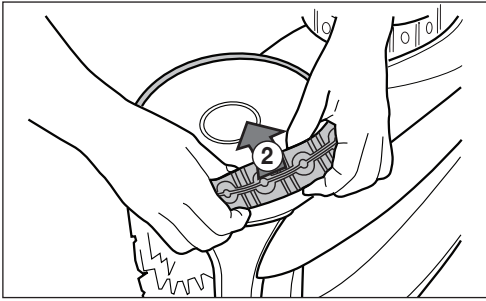

Figure 24. Remove the Old Tyre
2. Remove the old tyre. See Figure 24.